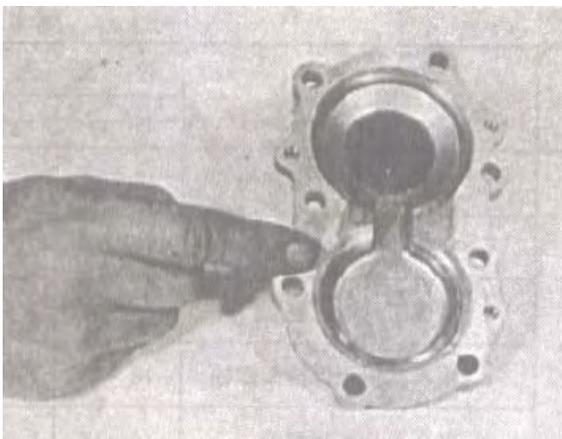

Fig 10-95
- (1) Apply grease(GREASE 201) to oil seal lip.
- (2) Clean surface of retainer to mate with transmission case and uniformly apply sealant(SILICON KETONE HZ1213) (FIG.10-95)
- (3) tighten retainer bolts to specification (TABLE 10-8)